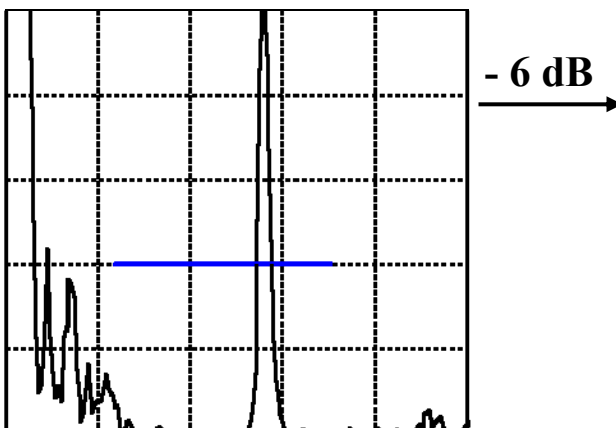

Figure 7A. Relevant Indication at Scanning Gain.
- e. All relevant indications shall be evaluated by reducing the scanning gain value by 6dB. If the indication continues to exceed the 40% FSH gate threshold it is cause for rejection. Reference Figure 7A & 7B.